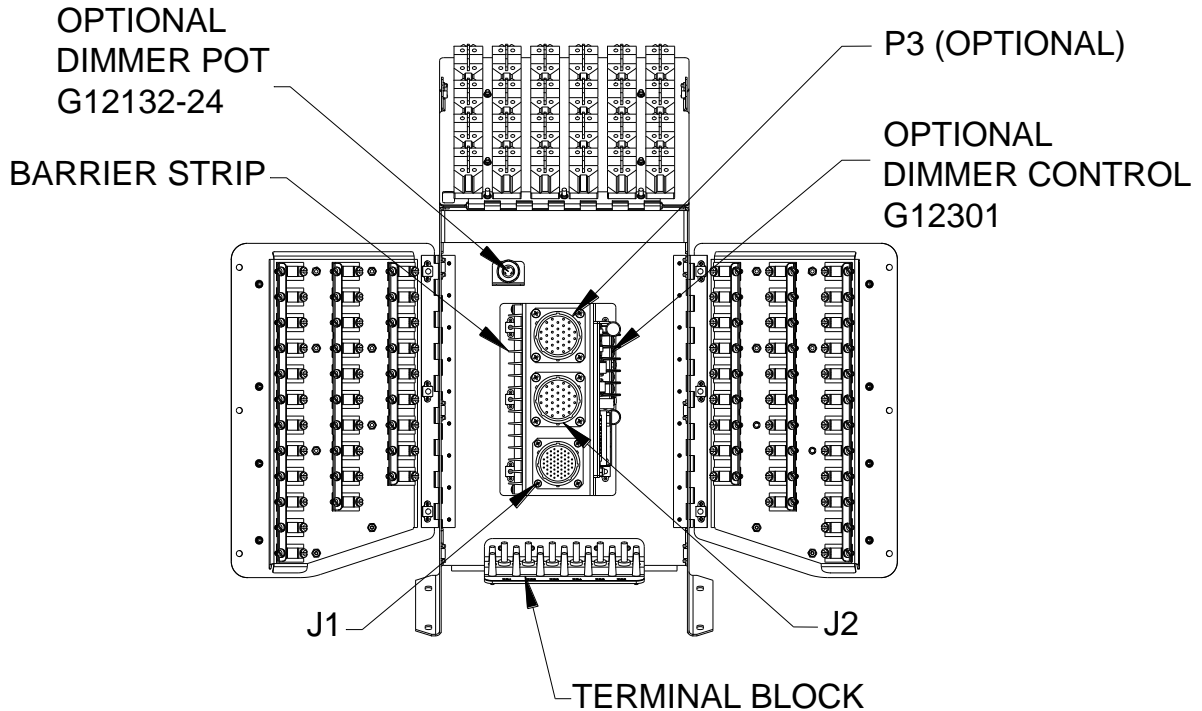

FIGURE 6
- 3.9. Carefully connect P1 to J1, P2 to J2, and J3 to P3 (see Figure 6). Secure connectors to prevent strain on wires and to prevent connectors from causing harm to adjacent items. Complete the installation of the console by securing cables, wires, and connectors. Close CB panels and Switch Plate Assembly and secure fasteners.